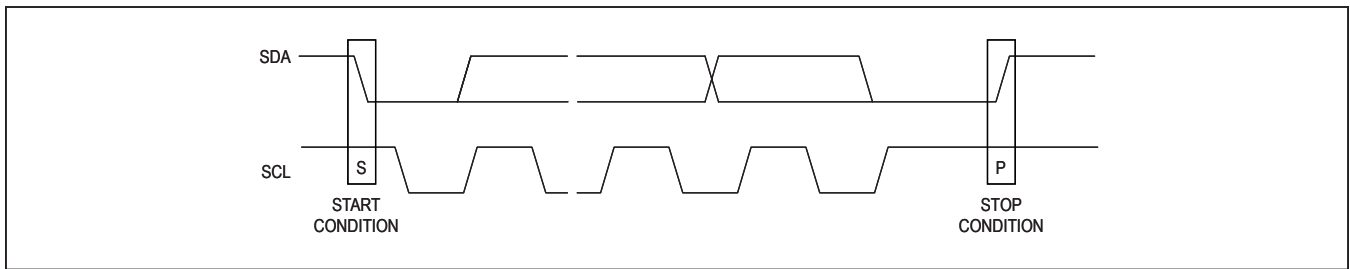

Figure 3. Standard Stop Conditions
finished communicating with the slave, it issues a STOP (P) condition by transitioning SDA from low to high while SCL is high. The bus is then free for another transmission (Figure 3).